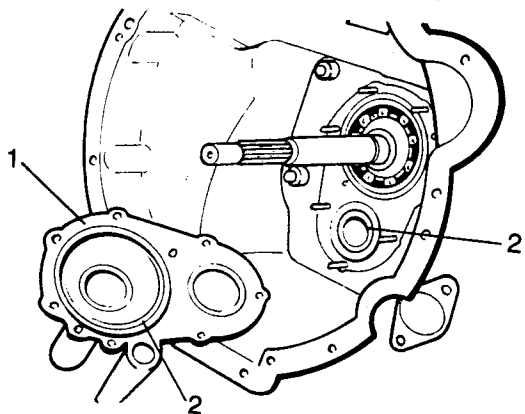

Fig H1.24
(1) Refer to Fig H1.24. Apply a film of Hermetical 600 on both faces of the gasket (1).
(2) Position the bearing adjusting washers of the primary shaft and the front bearing of the layshaft (2).
(3) Fit the cover and tighten the nuts to a torque of 20 to 25 N.m.